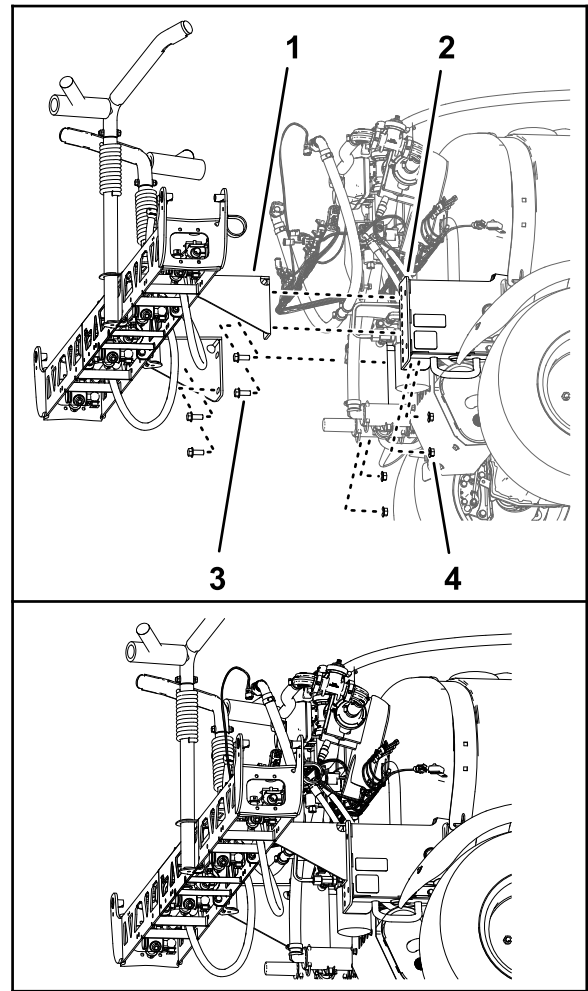

Figure 94
1. Using lifting equipment with the specified lift capacity, raise the center-spray section and align the holes in the support bracket for the spray section (Figure 94) with the holes in the mounting plate for the frame of the machine that you identified in step 3 of Removing the Center-Spray Section \(page 26\).
2. Assemble the center-spray section to the mounting channels (Figure 94) with the 4 flange-head bolt (1/2 x 1-1/4 inches) and 4 flange locknut (1/2 inch) that you removed in step 4 in Removing the Center-Spray Section \(page 26\).